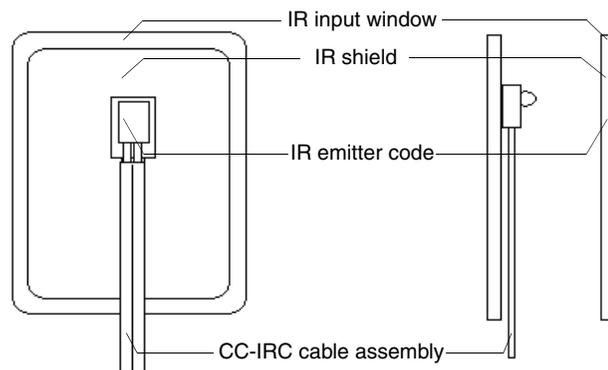

FIG. 7 IR emitter diode installed
3. Remove the adhesive back covering from the IR shield and place the IR emitter diode into the mirrored recessed area (FIG. 7) of the shield.